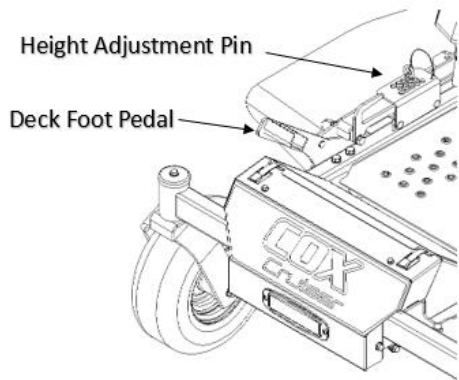

Figure 16
(Refer to Figure 16)
7.1.3 Raise and lock the deck to the 4 1/4-inch (10.8 cm) transport position (Figure 16).